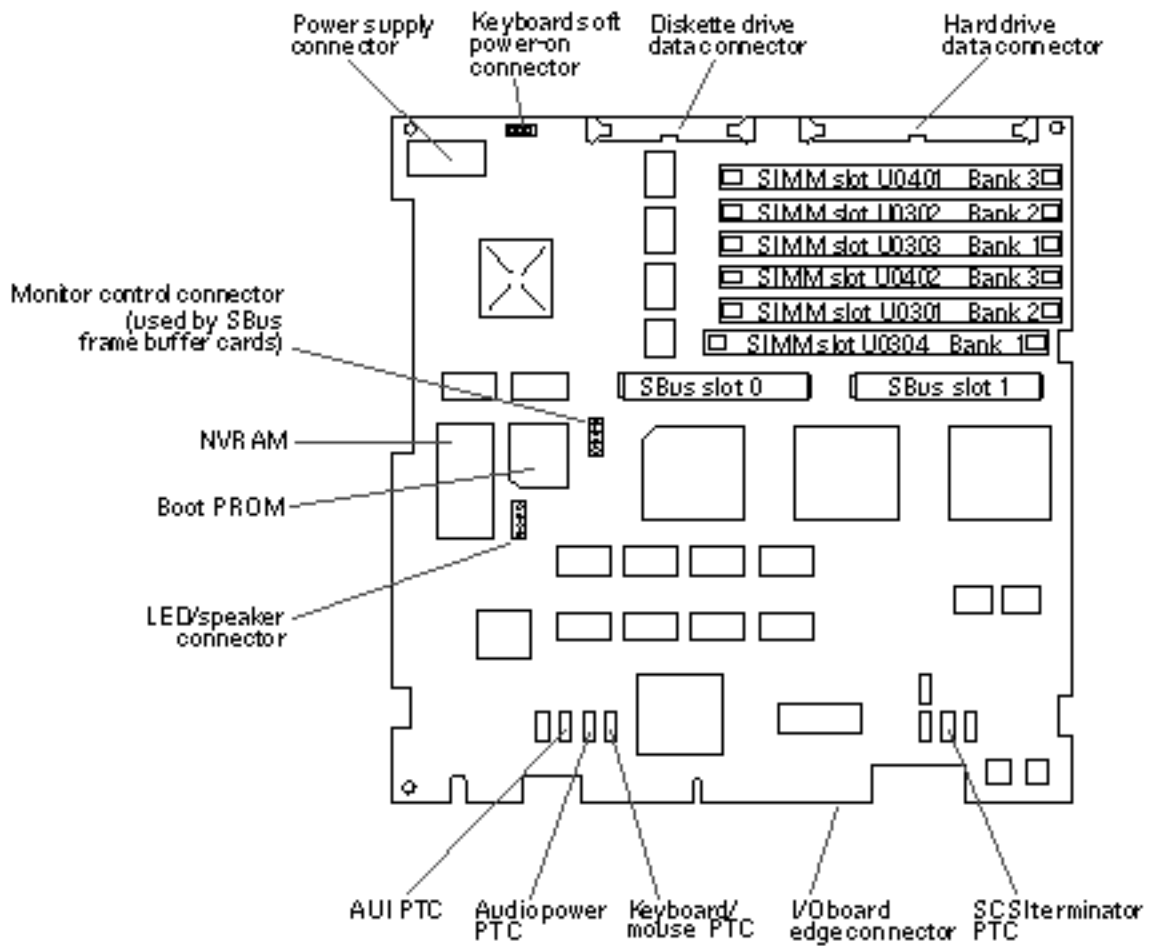
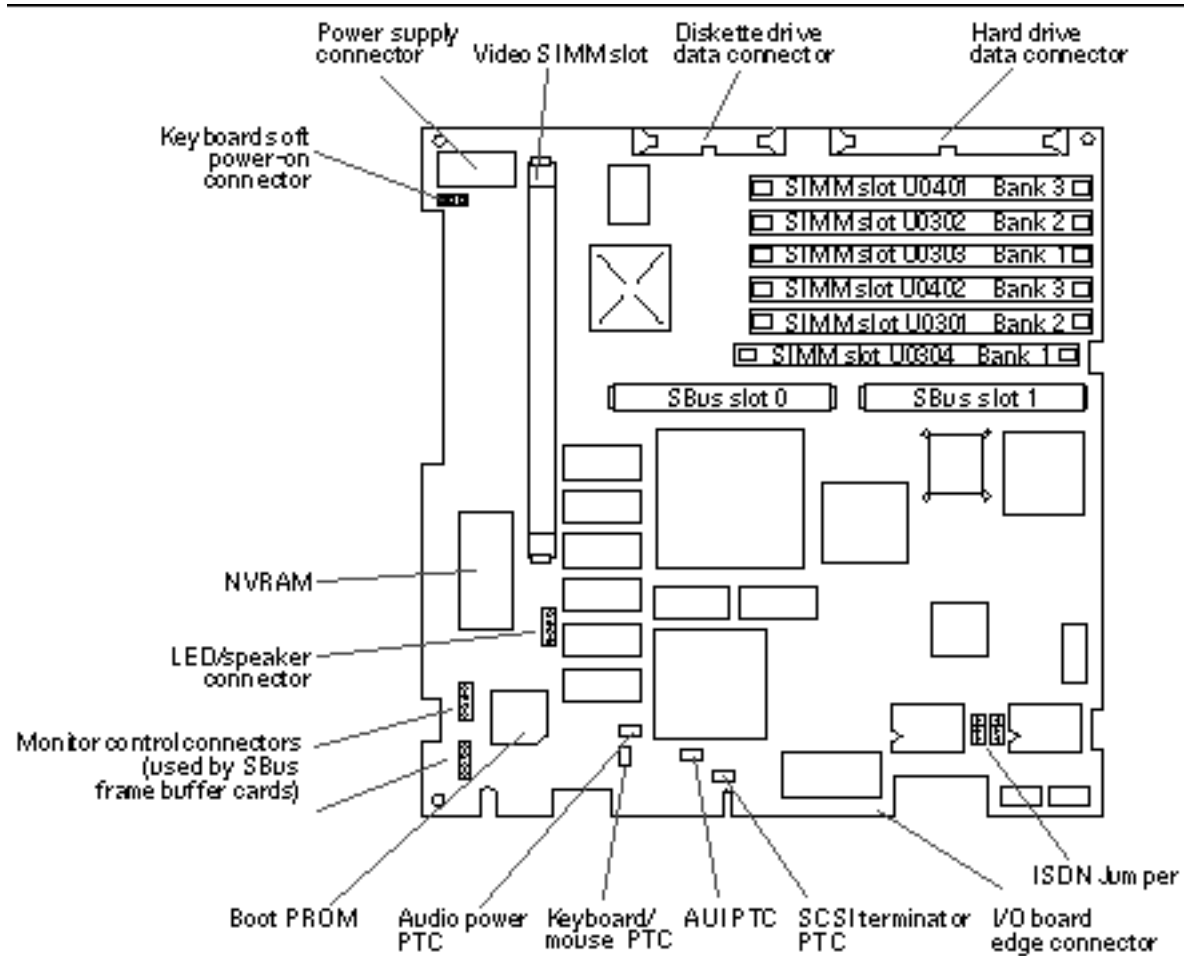

Figure 11-12 Main Logic Board Layout—SPARCclassic/SPARCclassic X
Figure 11-13 Main Logic Board Layout—SPARCstation LX (Part 270-2233)
There are no voltage test points on the main logic board. If you need to measure voltages, the safest place is at the power supply connection on the main logic board (see Figure 11-12 and Figure 11-13). See “Before Replacing the Main Logic Board” on page 128 for the connector wiring and voltages.
- a. Make sure that all SIMMs are correctly seated, the power supply harness is connected to the main logic board, and all replaceable chips on the board are correctly seated in their sockets. (See Figure 11-12 and Figure 11-13 for SIMM locations.)